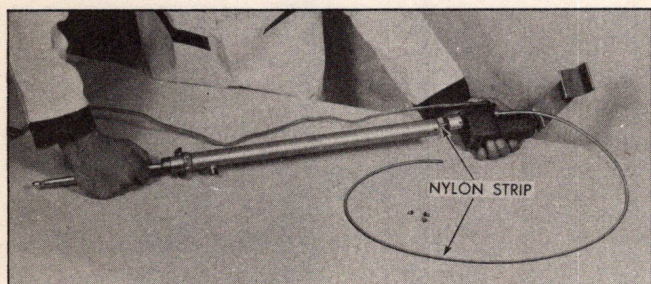

Fig. 13 Removing Antenna from Drive
b. If motor is inoperative, nylon strip can be pulled out of the drive by holding the motor firmly and pulling the lower or large section of the antenna mast until the nylon strip is disengaged from the drive (Fig. 13).
b. While nylon strip is being drawn through motor drive unit, guide mast sections and body tube into place on top of motor (see Fig. 13).